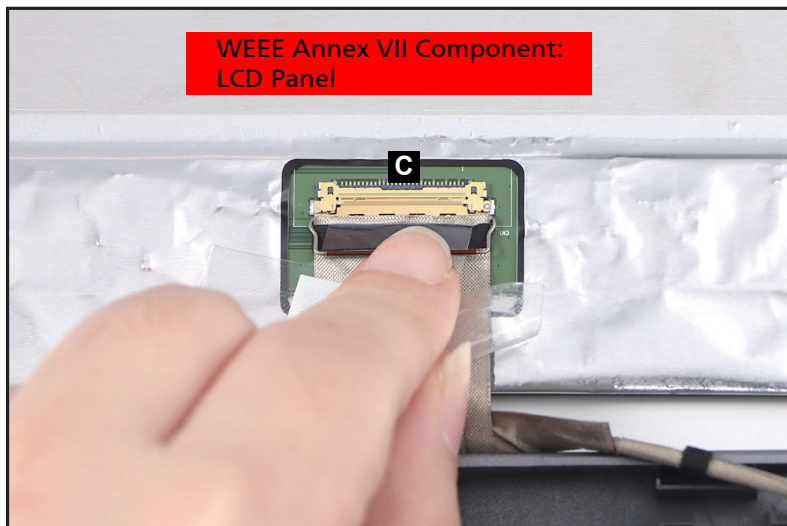

Figure 1-49. LCD Panel Removal
6. Disconnect the LVDS cable from the LCD panel connector (C) (Figure 1-49).